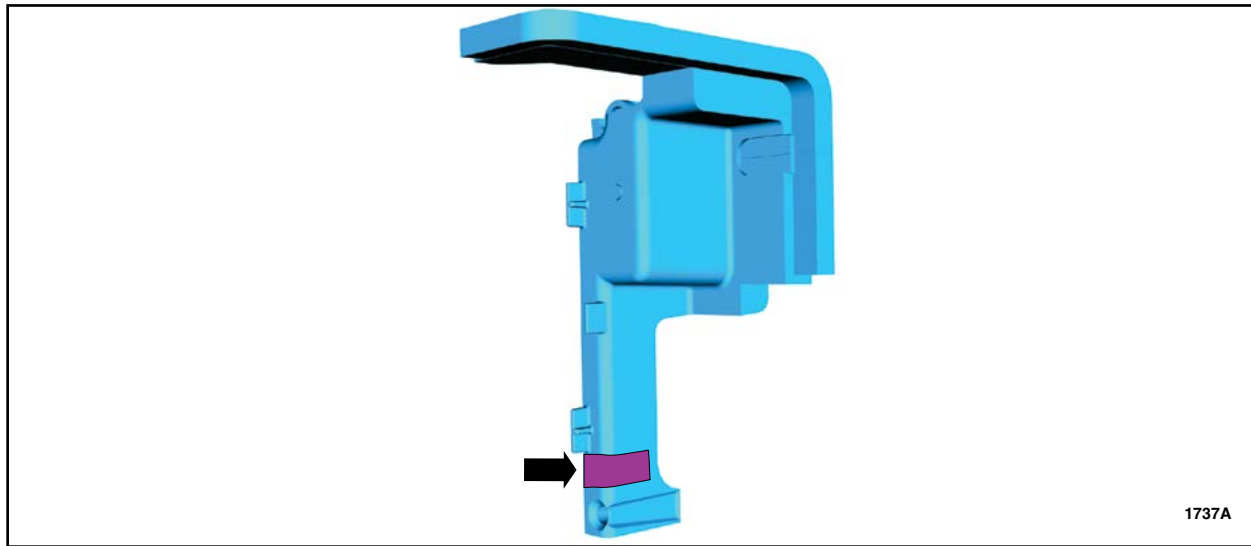

FIGURE 6
8. Apply supplied foam tape to the *new* shield in the highlighted area. See Figure 6.